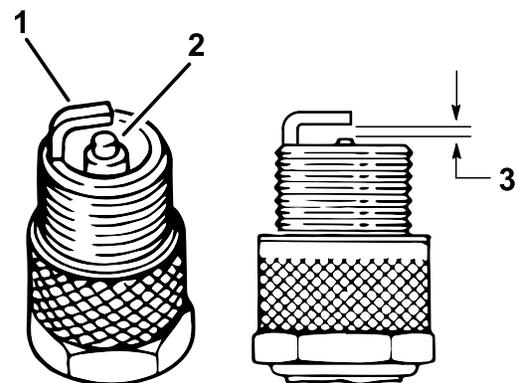

Figure 32
4. Check the condition of the side electrode, center electrode, and center electrode insulator to ensure that there is no damage (Figure 32).
5. Set the air gap between the center and side of the electrodes at 1 mm (0.04 inch) as shown in Figure 32.